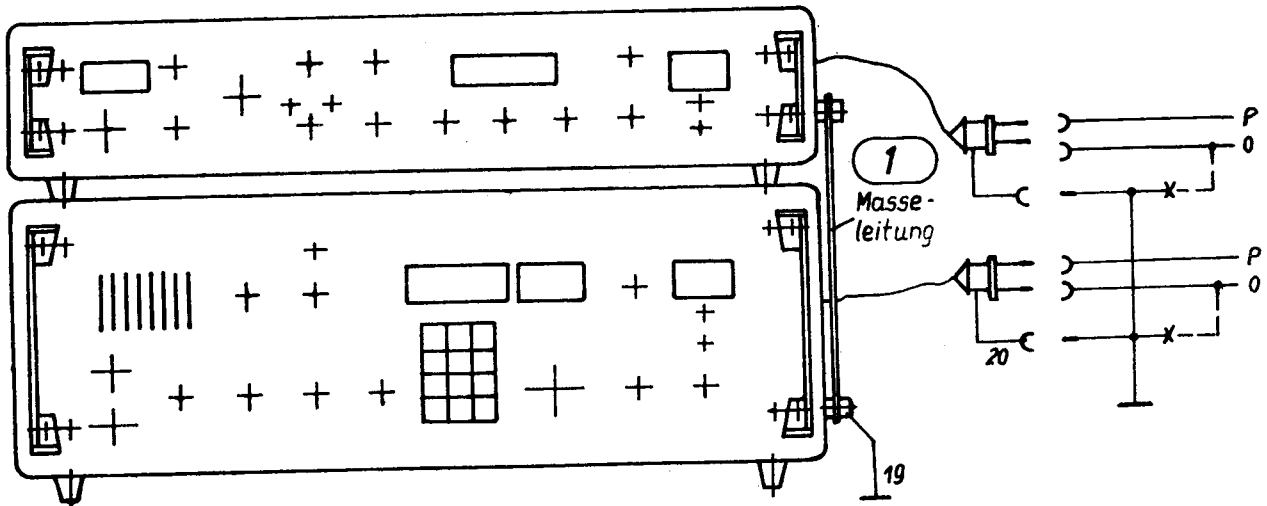

Figure 4
The earth bolt  $\perp$  (49) at the right side of the casing is to be connected via the RF low-impedance earth line 1399.036-02030 (cf. accessories) to the earth bolt of the basic unit (cf. Figure 4). From this position the earth connection is to be routed in accordance with the equipment documentation of the basic unit 1340.38-90001 Eu 02.
iliary unit and a common earth line is to be connected (cf. Figure 4) instead of the zero conductor.